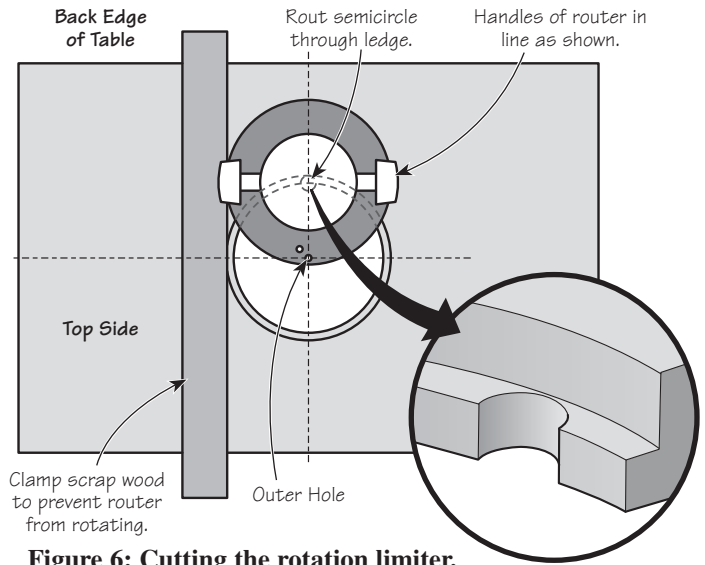

Figure 6: Cutting the rotation limiter.
- Before removing the router, rotate it until the bit is pointing at what will become the back edge of the top, and plunge the bit down, going through the table top (see **Figure 6**). Because the router may have a tendency to rotate counterclockwise when making this cut, we suggest either clamping the router in place or clamping a wooden bar against the side of the base plate to the table top to prevent this.